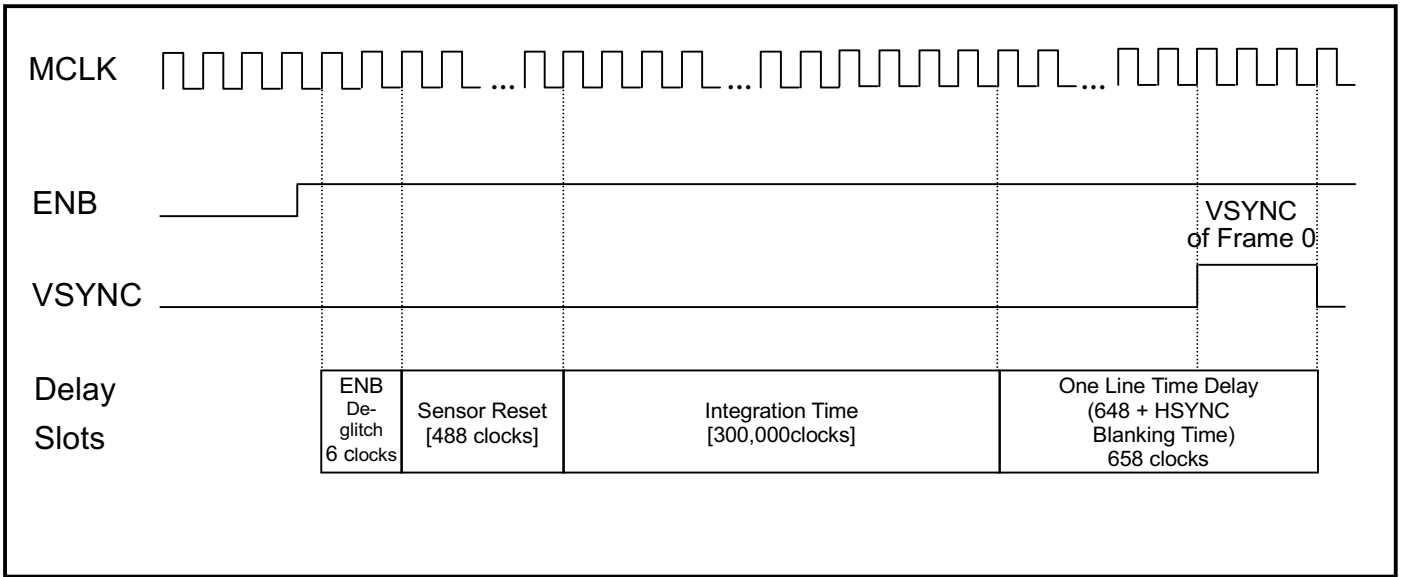

Fig. 2 Initial Data Setup Time after ENB gets active
1. Initial Data Setup Time: refer to following Figure 2